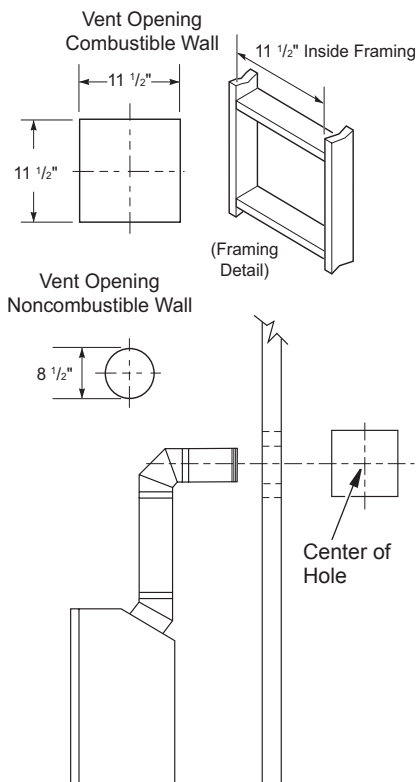
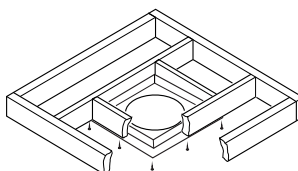

Figure 9 - Vent Opening Requirements
Figure 20 - Installing Firestop
5. Carefully determine location where vent pipe assembly will penetrate outside wall. Center of hole should line up with center line of horizontal vent pipe. Mark wall for a 11 1/2" x 11 1/2" square hole. Cut and frame square hole in exterior wall where vent will be terminated. If wall being penetrated is constructed of non-combustible material, such as masonry block or concrete, a 8 1/2" hole with zero clearance is acceptable (see Figure 9, page 11).
should be framed to 11 1/2" x 11 1/2" inside dimensions, as shown in Figure 9 on page 10 using framing lumber the same size as ceiling joists. If area above ceiling is an insulated ceiling or an attic, nail firestop from top side. This prevents loose insulation from falling into required clearance space. If area above ceiling is a living space, install firestop below framed hole. Firestop should be installed with no less than three nails per side (see Figure 20).
3. Cut a hole in the roof using locating hole as a center point. (Cover any exposed open vent pipes before cutting hole in roof.) The 11 1/2" x 11 1/2" hole must be measured on the horizontal; actual length may be larger depending on pitch of roof. There must be a 1" clearance from vent pipe to combustible materials. Frame opening as shown in Figure 9, page 10.